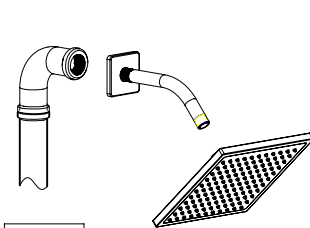

Fig .5
- Install shower assembly(see Fig. 5).